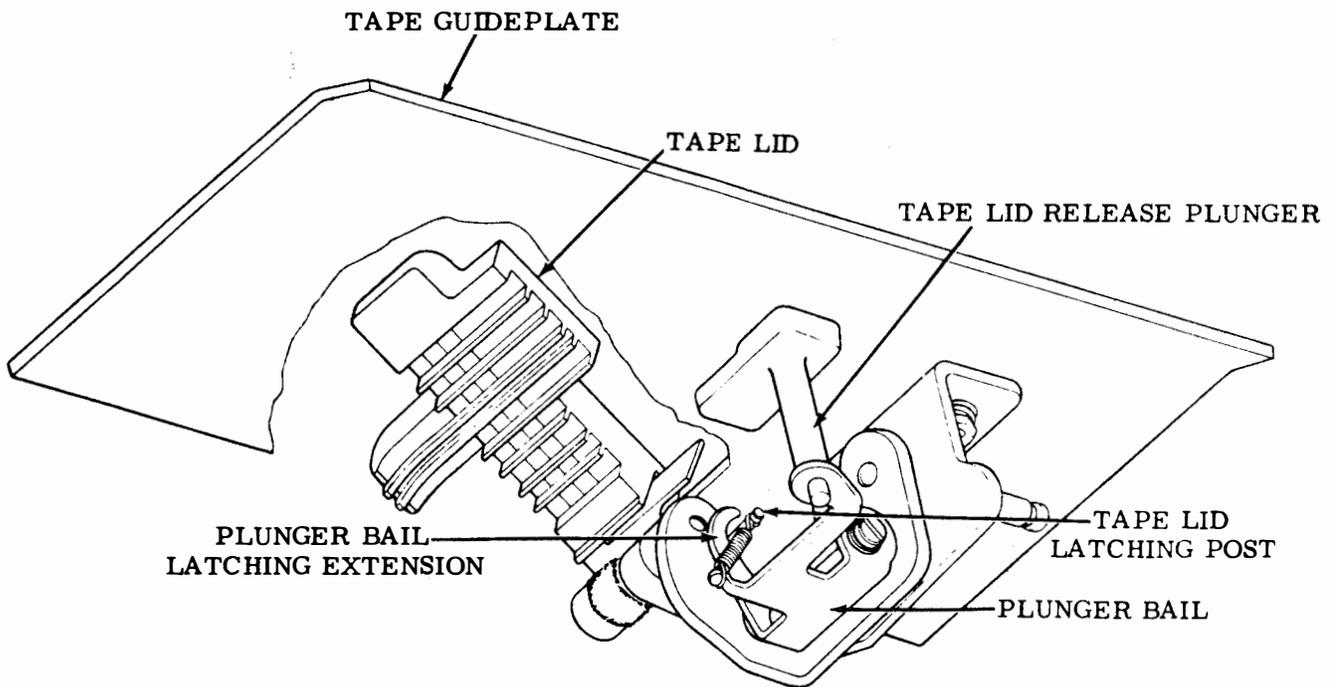

Figure 3-19. Tape Lid Mechanism - Bottom View
(1) Opening. When the tape lid release plunger (figure 3-19) is pressed, the shaft portion of the plunger presses against the tape lid plunger bail extension causing the bail to pivot. The bail, in pivoting, moves its latching extension from under the tape lid latching post to swing down under action of its spring. Since the latching post is mounted on the tape lid behind the pivot point and below the tape guideplate, it causes the